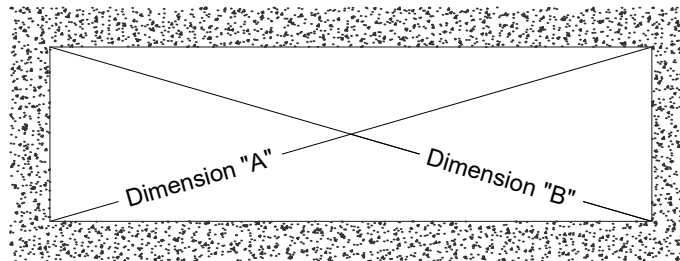

FIG. 1
- Make sure the opening is square and plumb. Measure each diagonal of the opening. **SEE FIG. 1.**